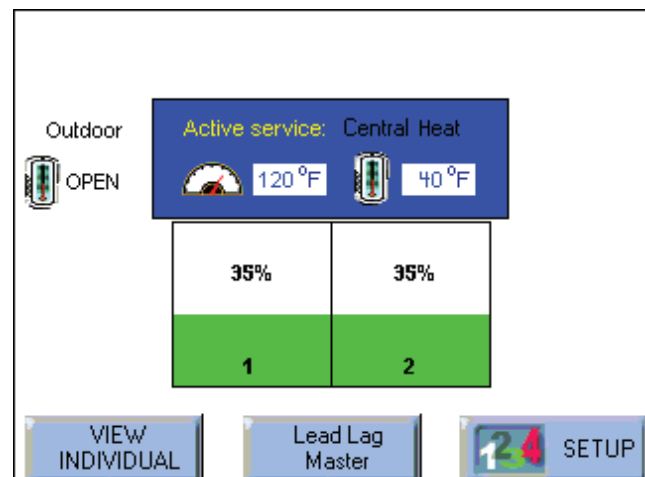

Fig. 112 – Lead/Lag Screen
2. If the system was running, the following screen would normally show the current activity of each unit in the multiple boiler arrangement. See Fig. 112.